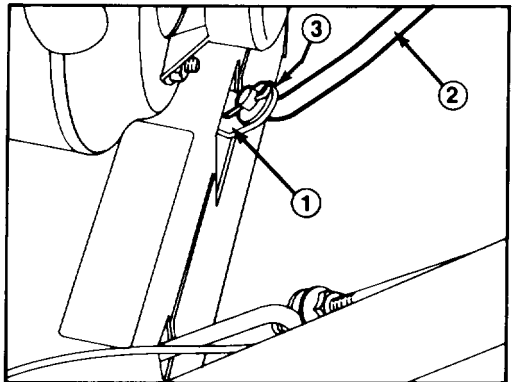

Figure 7
1. Pull speed selector arm to the fully "out" position (Fig. 7) and move control handle on escutcheon plate to the R (REVERSE) position to ease assembly.
2. Install speed selector rod into selector arm, add one flat washer on the selector rod and secure with cotter pin (Fig. 7).